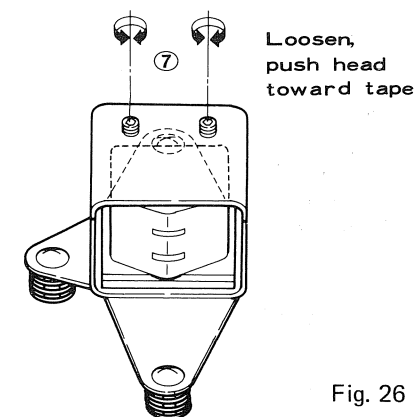

Fig. 26
3. With your fingertip, push the traveling tape against head A. If the output level increases, tape-to-head contact has not been perfect. Loosen screws 7 in Fig. 26 slightly, then push core of head A slightly toward tape. Re-tighten screws.